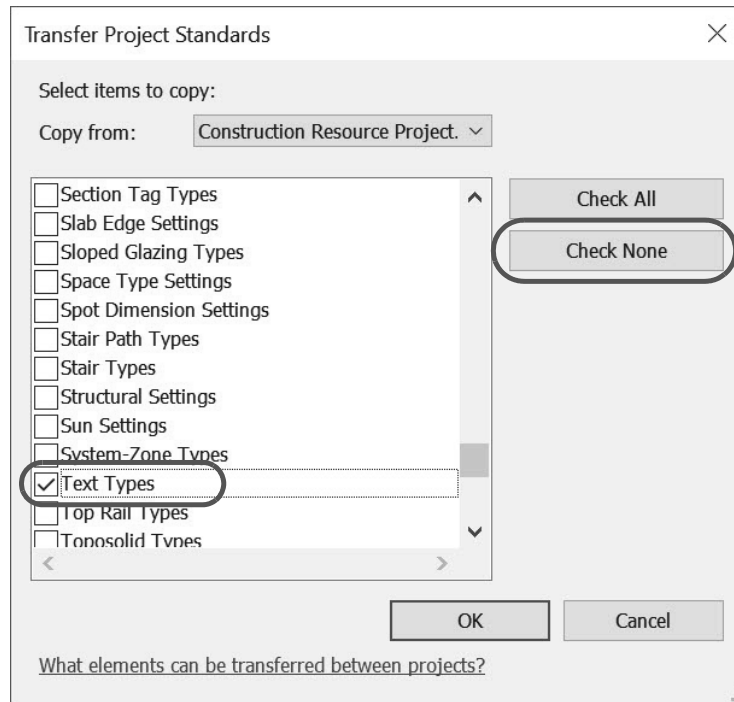

Figure 1–30
- Click **Check None** to deselect everything in the list, then select **Text Types** (as shown in Figure 1–30) and click **OK**.